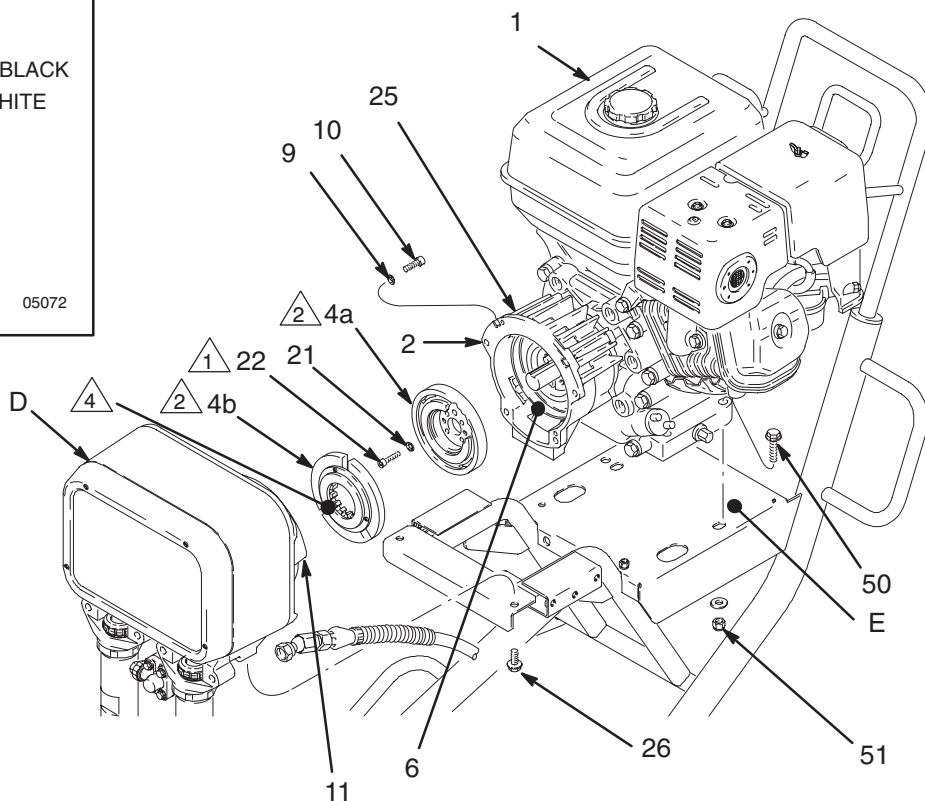

Fig. 22
6. Place the **engine (1)** assembly on the cart. Align the mounting holes. Carefully guide the engine wire (D) and wiring harness (63) from the field, through the appropriate grommets (66) in the mounting plate (E). Install the flange screws (50) and locknuts (51), but do not tighten these screws yet. Connect the engine wire (D) to the red wire (B), and connect the black and white wires as shown in the Detail drawing in Fig. 22.
7. Be sure the face of the **rotor (4a)** and the field (6) are free of all oil and contaminants. Remove any burrs on the outside edge of the rotor. Install the rotor, lockwashers (21) and capscrews (22). Torque the capscrews to 7 ft-lb (9.5 N.m). See Fig. 22.
8. After installing the rotor (4a), pull the engine recoil rope to assure that the engine turns freely, and there is no contact between the rotor (4a) and the field (6). If there is contact, loosen the setscrews (25) and reposition the field. Tighten the setscrews oppositely and evenly to 27 in-lb (3.2 N·m).
10. Assemble the drive assembly (D) to the clutch housing, using the capscrews (10) and lockwashers (9). See Fig. 22.
11. Install the flange screws (26), then tighten lock nuts (51) and screws (26).